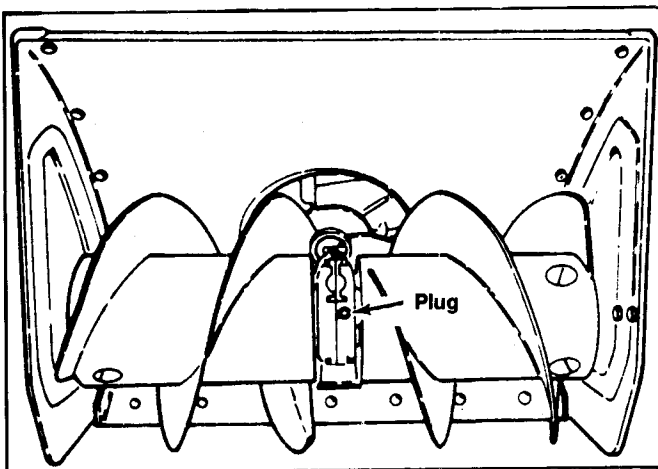

Figure 3
3. Clean the area around pipe plug so dirt is removed. See Figure 3.